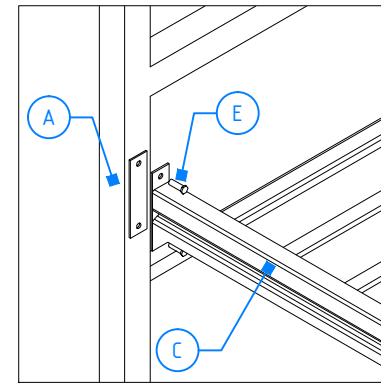

Fig. 1
Place the bottom platform (C) in to the holes of headboard (A) and footboard (B) and securing them with the supplied screws (E). Fig 1.